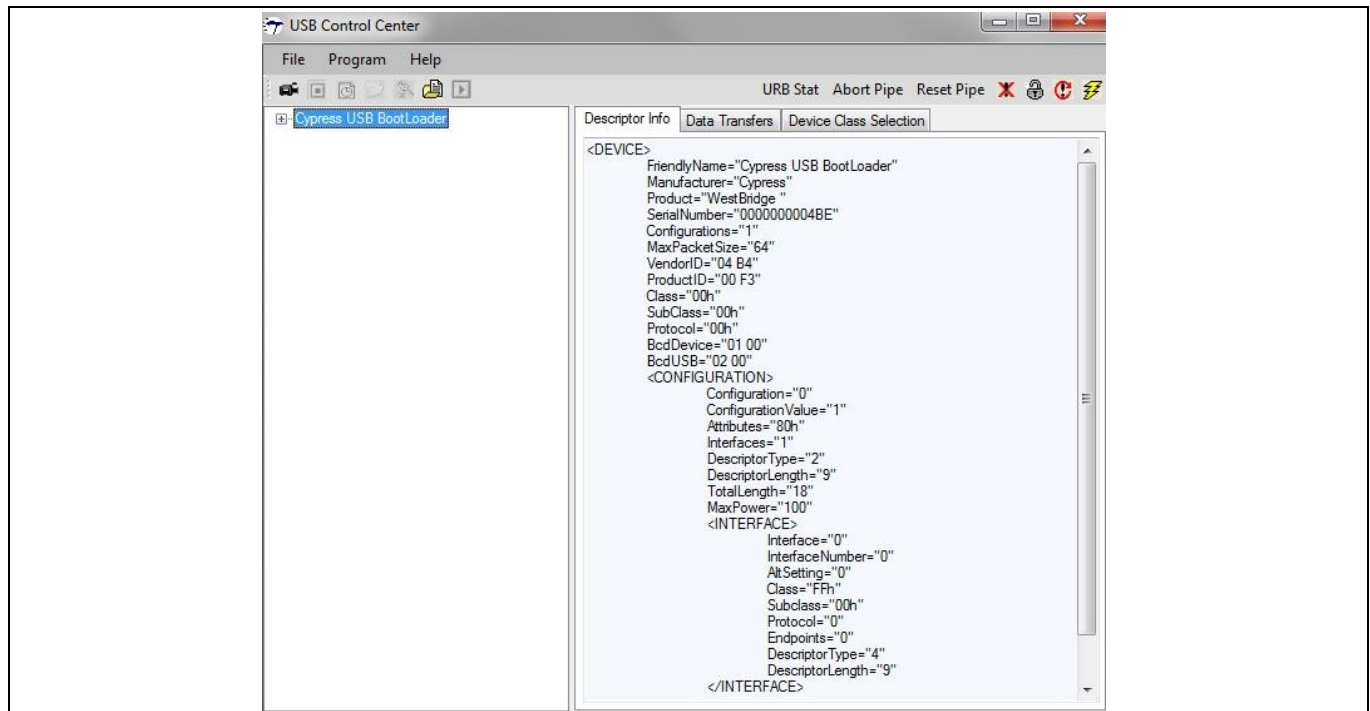

Figure 16 Cypress USB BootLoader Enumeration in control center
3. When connected to a USB Host, the FX3 device enumerates in the Control Center as “Cypress USB BootLoader,” as shown in Figure 16.